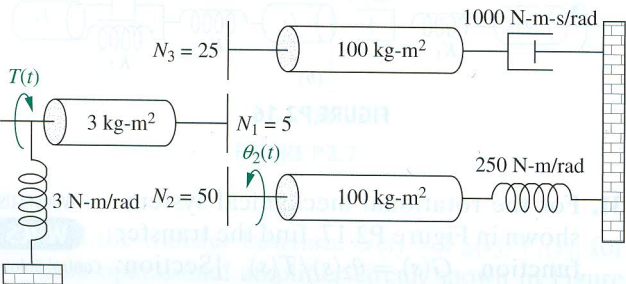

FIGURE P2.20
34. Find the transfer function,  $G(s) = \theta_2(s)/T(s)$ , for the rotational mechanical system shown in Figure P2.20. [Section: 2.7]